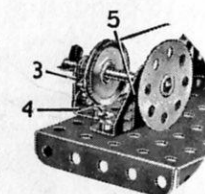

Fig. O.6a.
The Bolts (1) are fitted with *lock-nuts* so that the parts they attach are free to pivot. Bearings for a 2" Rod, the end of which is seen at (2), are provided by a Fishplate (3). Fig. O.6a, bolted to an Angle Bracket (4), and a Trunnion (5).